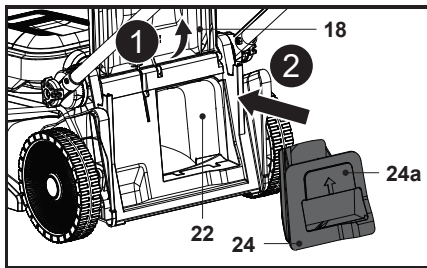

Fig. 13
1. Open the rear deflector guard (18), hold the recess handle (24a) in position and insert the mulching insert (24) into the rear discharge chute (22) all the way to the end (Fig. 13).